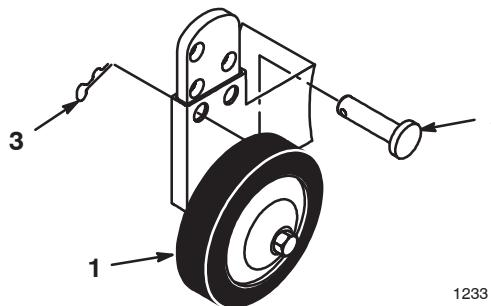

Figure 7
- A. Remove the hairpin cotter and pin to change the hole location (Fig. 7).
- B. Select a hole position so that the gage wheel is 3/8 inch (10 mm) off the ground for the height-of-cut to be used (Fig. 7).